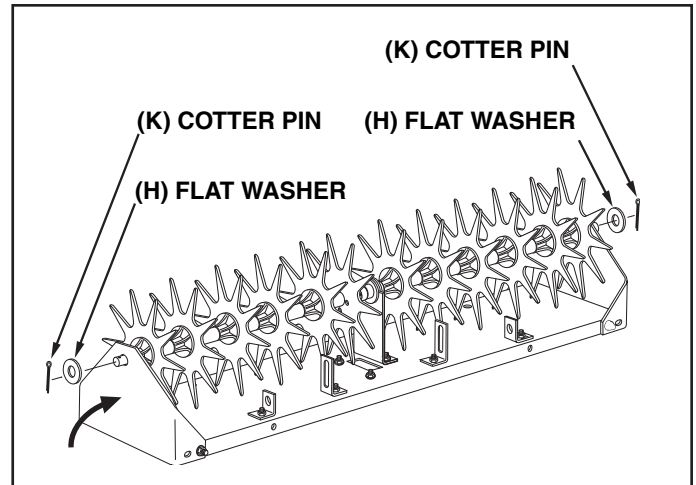

FIGURE 6 REAR VIEW
9. Pivot the end plate up onto the end of the axle. See figure 6.
10. Assemble a flat washer(s) (H) and a cotter pin (K) to one end of the axle. Use as many washers as needed to eliminate any gaps between the parts on that end of the axle. See figure 6.
11. Repeat the procedure for the other end of the axle. See figure 6.